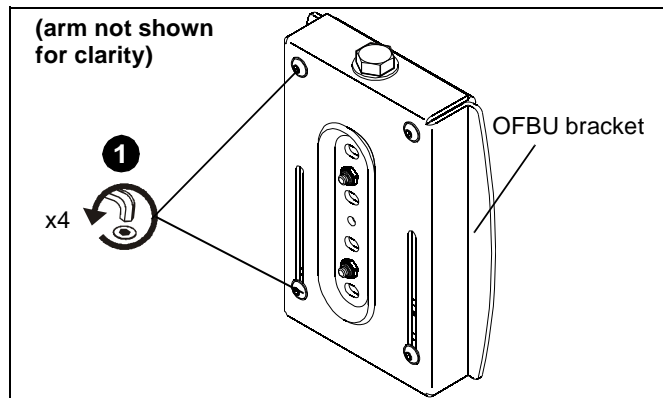

Figure 2
1. Verify mounting brackets on OFBU bracket can move freely. (See Figure 2)